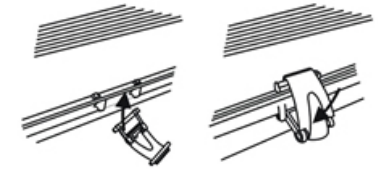

Figure 1: Diffuser clip diagram
13. Fit the diffuser clips (if not already fitted) and then fit the diffuser, see figure 1.